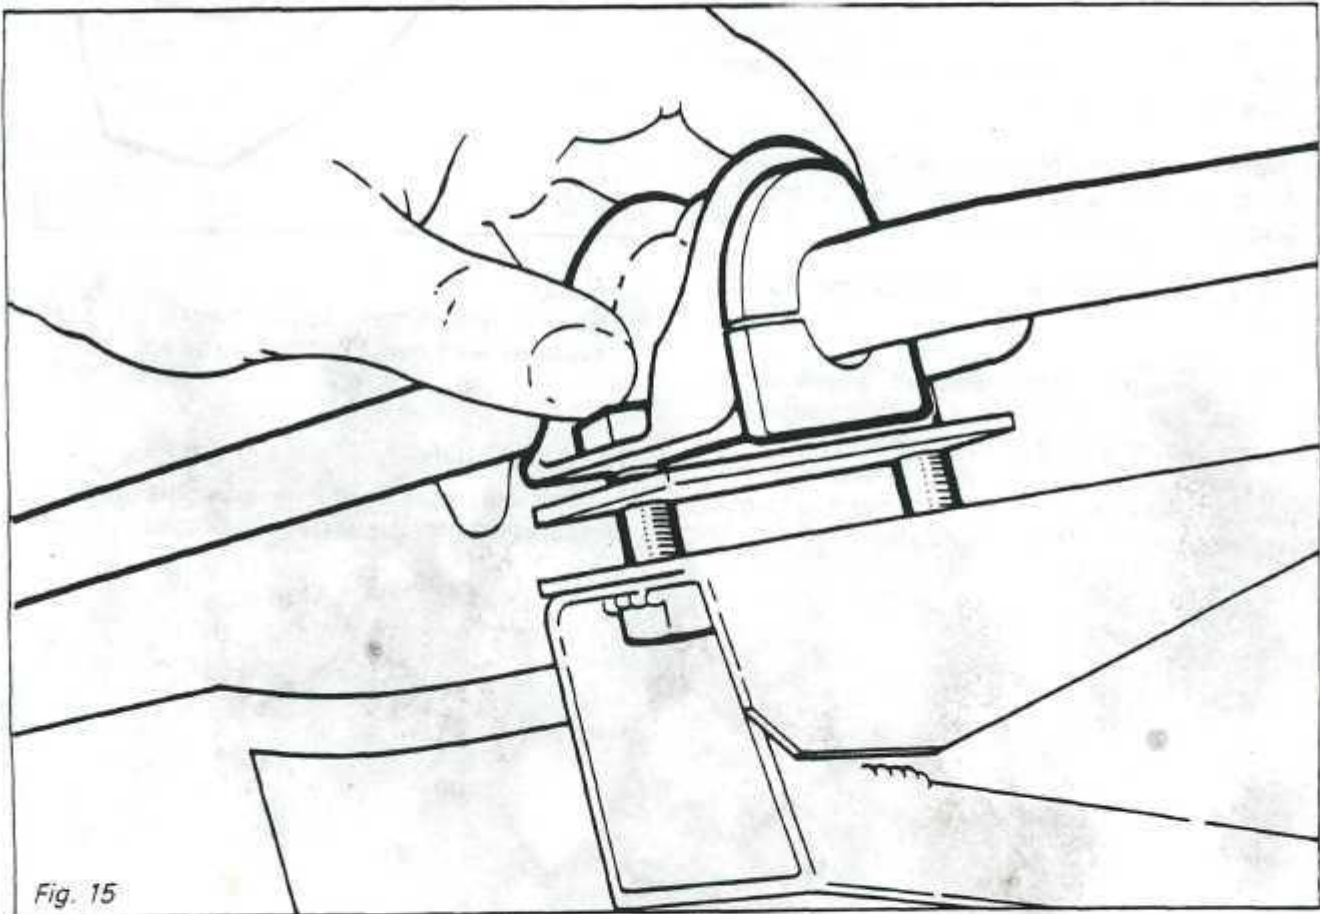

Fig. 15
1. Remove two (2) screws, each side securing stabilizer bar bushings at front chassis, front impact extension. *Fig. 15*